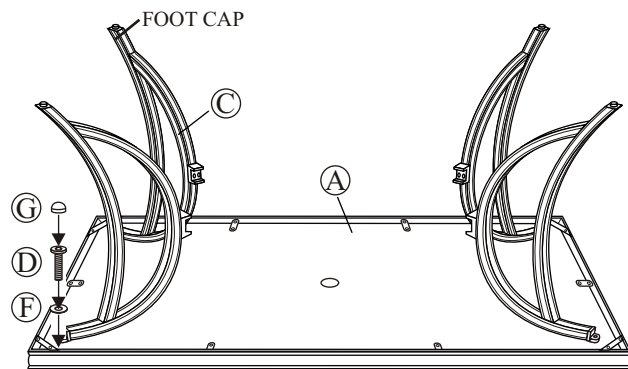

Fig.1
1 **Important:** We recommend 2 people work together to assemble the chair. Note the arrow labels on the "U" bar and the rocker assembly. Also note the horseshoe shape of the rocker plate. Point the open end of the horseshoe away from you. The arrows on the rocker assembly should be pointing towards you. Set the chair frame on the rocker assembly with front of the seat facing you and the arrows on the "U" bar pointing towards you as shown in **Figure 1**. This is very important for a safe, balanced rocking motion. **If chair frame has been properly positioned on the rocker assembly, all arrows on the "U" bar and rocker assembly will be pointing in the same direction.**
Step 2: Place the table top upside down on a flat, non-abrasive surface. Attach a table leg to the table top by using the bolt and washer as shown in **Fig.1**. Place the leg beneath the table top corner bracket and into the pre-drilled hole in the table leg. **Hand tighten only 3-4 revolutions only. Do not tighten completely.** Repeat for the other three legs.